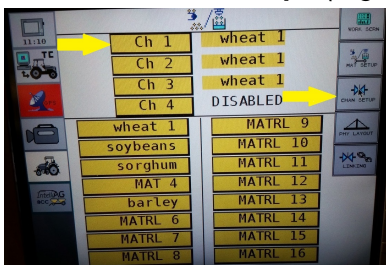

Figure 22
Step 2. Select **Channel Setup**. (Figure 22)